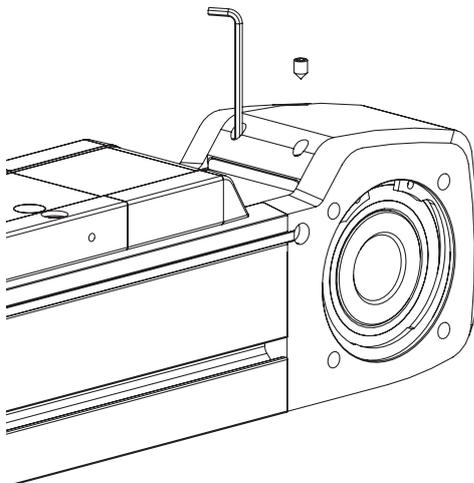

Fig. 7.11 Installing/removing the cover strip clamp on/from the HM-B
- ▶ Undo the clamping screw of the cover strip clamp at both ends of the axis as shown in Fig. 7.11.
- ▶ Hand-tighten the clamping screws of the cover strip clamp (see Fig. 7.11).